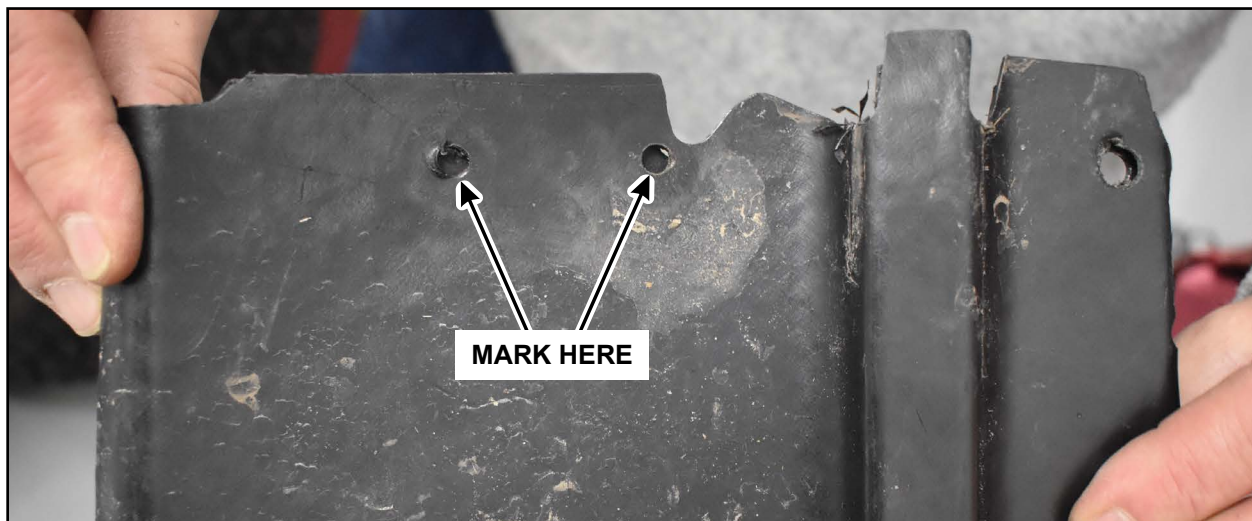

FIGURE 5
13. On the opposite end, use the original splash shield as a template to mark the holes for the fasteners. See Figure 5.